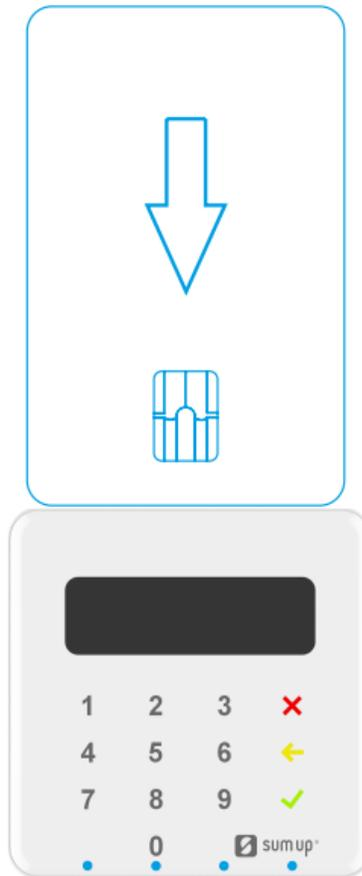

Figure 3
- 1 Position a smart card with the gold contacts facing upward (Figure 3)